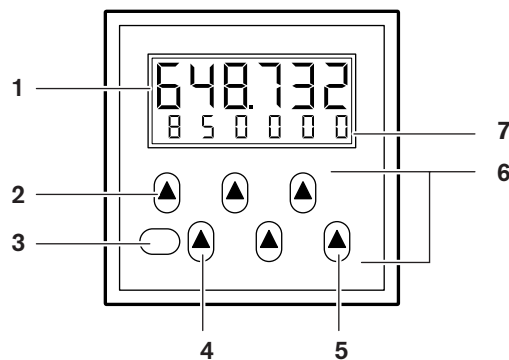

Fig. 9: IO sums counter
- The following keys must be depressed simultaneously (for safety reasons): reset the key (fig. 9/3), the keys of decade 5 (fig. 9/4) and 6 (fig. 9/2). On the lower line of the display the message „INIT“ appears together with a down-counter subtracting from 5 to 0 in steps of seconds.
- The key of the first decade (fig. 9/5) allows to select the requested function within the parameters (e.g. add/subtract).
- The 6th decade-key (fig. 9/2) selects the next parameter. After the last parameter „dp“ the program jumps to the beginning.